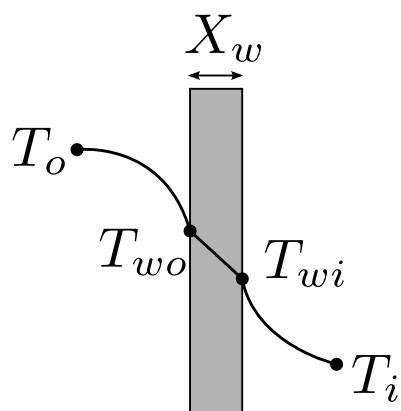

Figure 22: The temperature profile through the pipe wall.
- a) Chilled water flowing through brass tubes of  $0.0126 \text{ m}$  inside diameter and  $0.0018 \text{ m}$  thickness cools a stream of air flowing outside of the tube. The film coefficients for the air and water flows are  $176 \text{ W m}^{-2} \text{ K}^{-1}$  and  $5660 \text{ W m}^{-2} \text{ K}^{-1}$  respectively and thermal conductivity of the brass is  $102 \text{ W m}^{-1} \text{ K}^{-1}$  (see Fig. 22).